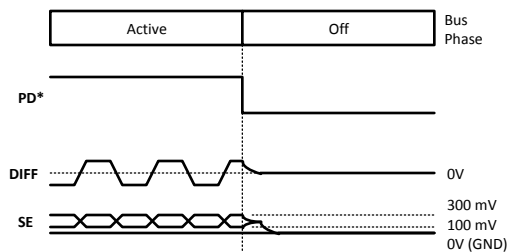

Figure 9. MPL-2 - LM4312 Link Off Timing
(6) Specified functionally by the  $I_{DDZ}$  parameter. See also Figure 9.
(7) This is the minimum time that the PCLK needs to be held off for in order for the device to be reset. Once PCLK is reapplied, a PLL Lock is required and start up sequence before video data is serialized.
In the Serial Bus OFF phase, SER differential outputs are all driven to Ground. Figure 9 shows the transition of the MPL-2 bus into the OFF phase.